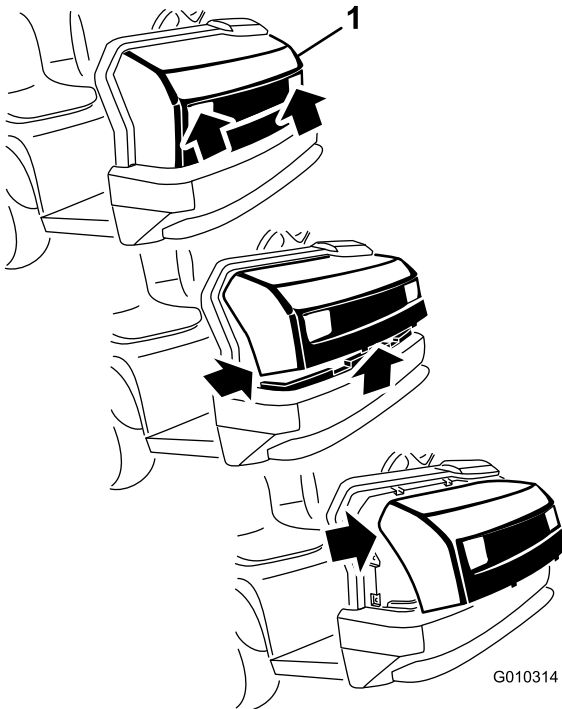

Figure 25
3. Pivot the top of the hood forward and unplug the wire connectors from the headlights (Figure 25).
2. Insert the top mounting tabs into the frame slots (Figure 25).
3. Insert the lower mounting tabs into the frame slots (Figure 25).
1. While grasping the hood in the headlight openings, lift up the hood to release the lower mounting tabs from the frame slots (Figure 25).
2. Pivot the bottom of the hood upward until you can pull the top mounting tabs from the frame slots (Figure 25).